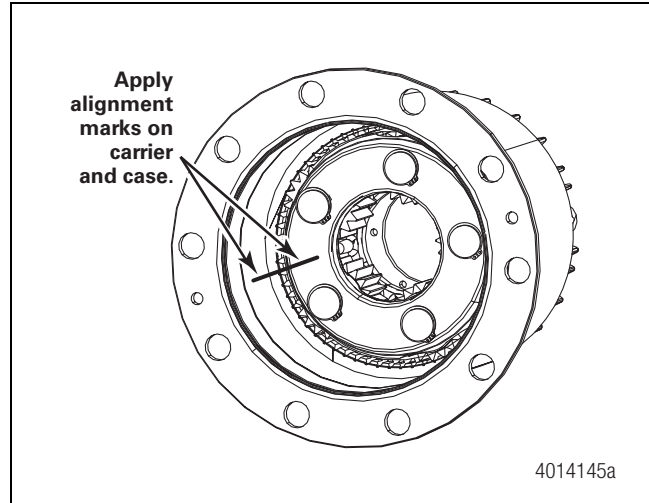

Figure 4.9
1. Mark the alignment of the planetary carrier to the housing case inside the case. Figure 4.9.